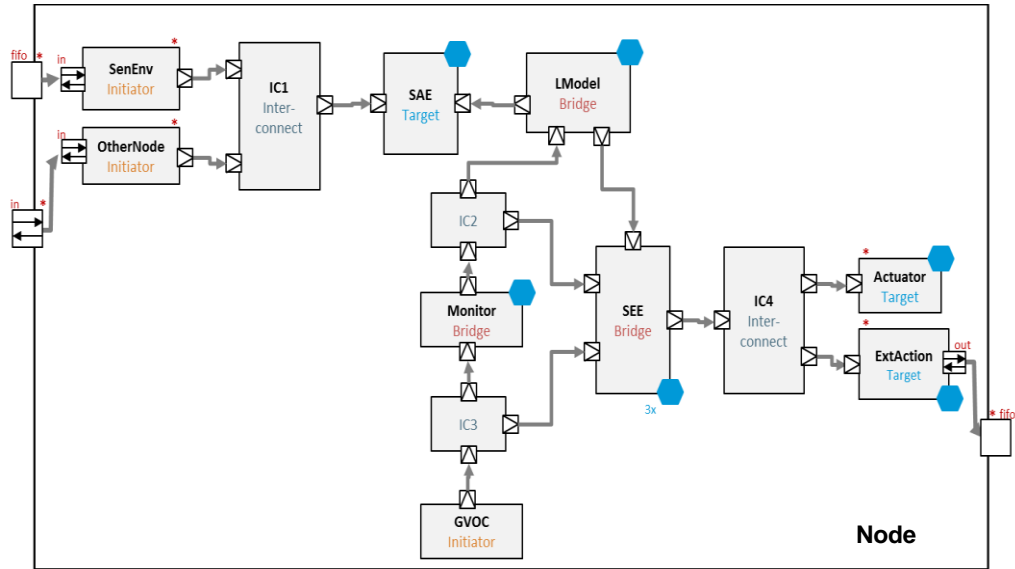

Figure B.1: Component View of the Environment
B. It is composed of the following elements (cf. figure B.1):